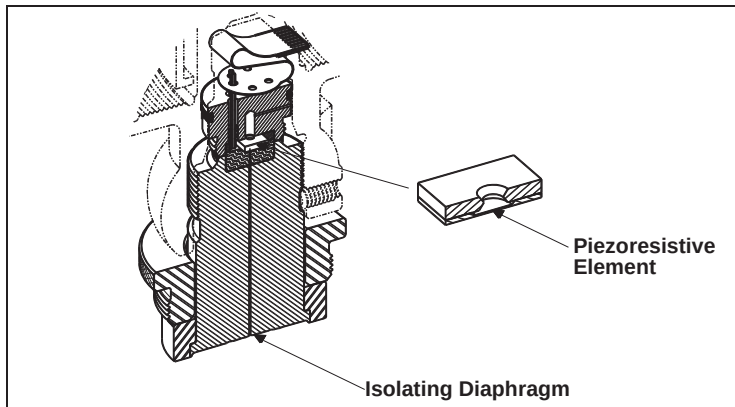

Figure 1.17: Piezoresistive Sensor
*Resistance* is the amount of opposition to the flow of electricity exhibited by a particular conductor. A *piezoresistor* is a piece of metal or a semiconductor that exhibits a change in resistance when bent or stretched. In a piezoresistive transmitter, pressure is transmitted through a fill fluid from an isolating diaphragm to a piezoresistor (Figure 1.17). As the piezoresistor is flexed by pressure, its resistance changes. Typically, the piezoresistor is part of a configuration of electrical conductors and resistors measuring changes in resistance called a *wheatstone bridge*. The change in resistance is then converted by the electronic components of the transmitter into a standard control signal, commonly a milliamper, voltage, or digital control signal.